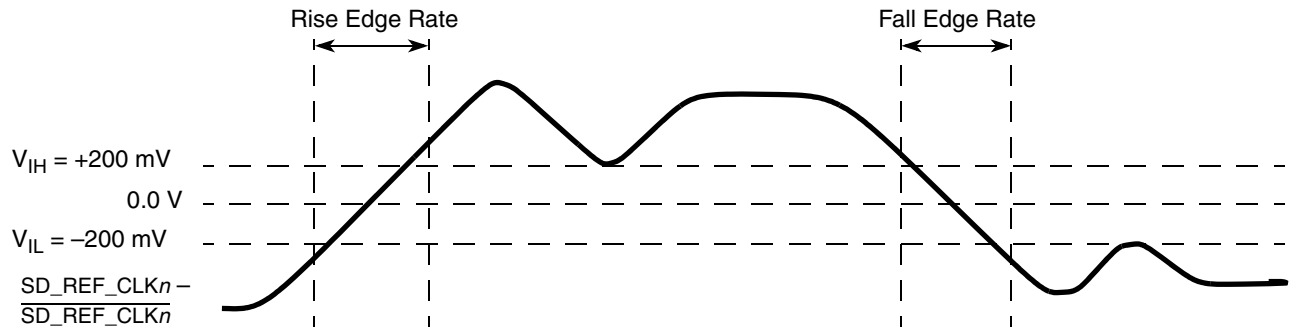

Figure 37. Differential Measurement Points for Rise and Fall Time
only one signal trace curve in a differential waveform. The voltage represented in the differential waveform is not referenced to ground. See Figure 37 as an example for differential waveform.
3. Measured from -200 mV to +200 mV on the differential waveform (derived from SD_REF_CLK n minus $\overline{\text{SD_REF_CLK}}_n$). The signal must be monotonic through the measurement region for rise and fall time. The 400 mV measurement window is centered on the differential zero crossing. See Figure 37.